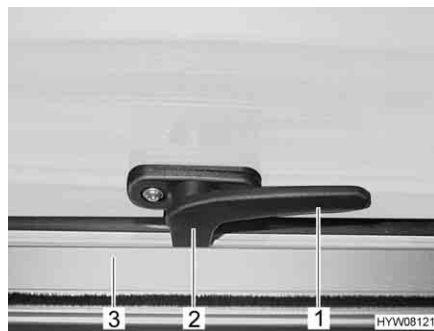

Fig. 80 Catch lever in "closed" position
- Turn the catch lever (Fig. 80,1) a quarter turn towards the centre of the window.
- Turn the catch lever (Fig. 80,1) a quarter turn towards the window frame. The locking catch (Fig. 80,2) is located on the inside of the window catch (Fig. 80,3).